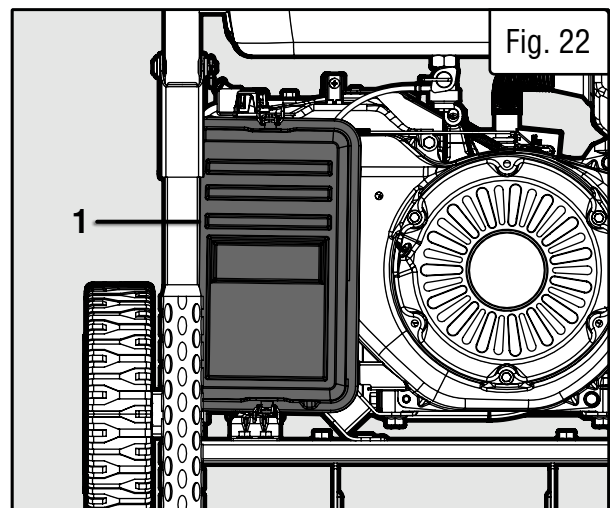

Fig. 22
1. Remove the air filter cover by loosening the clasps at the top and bottom of the air filter cover (Fig. 22 - 1).